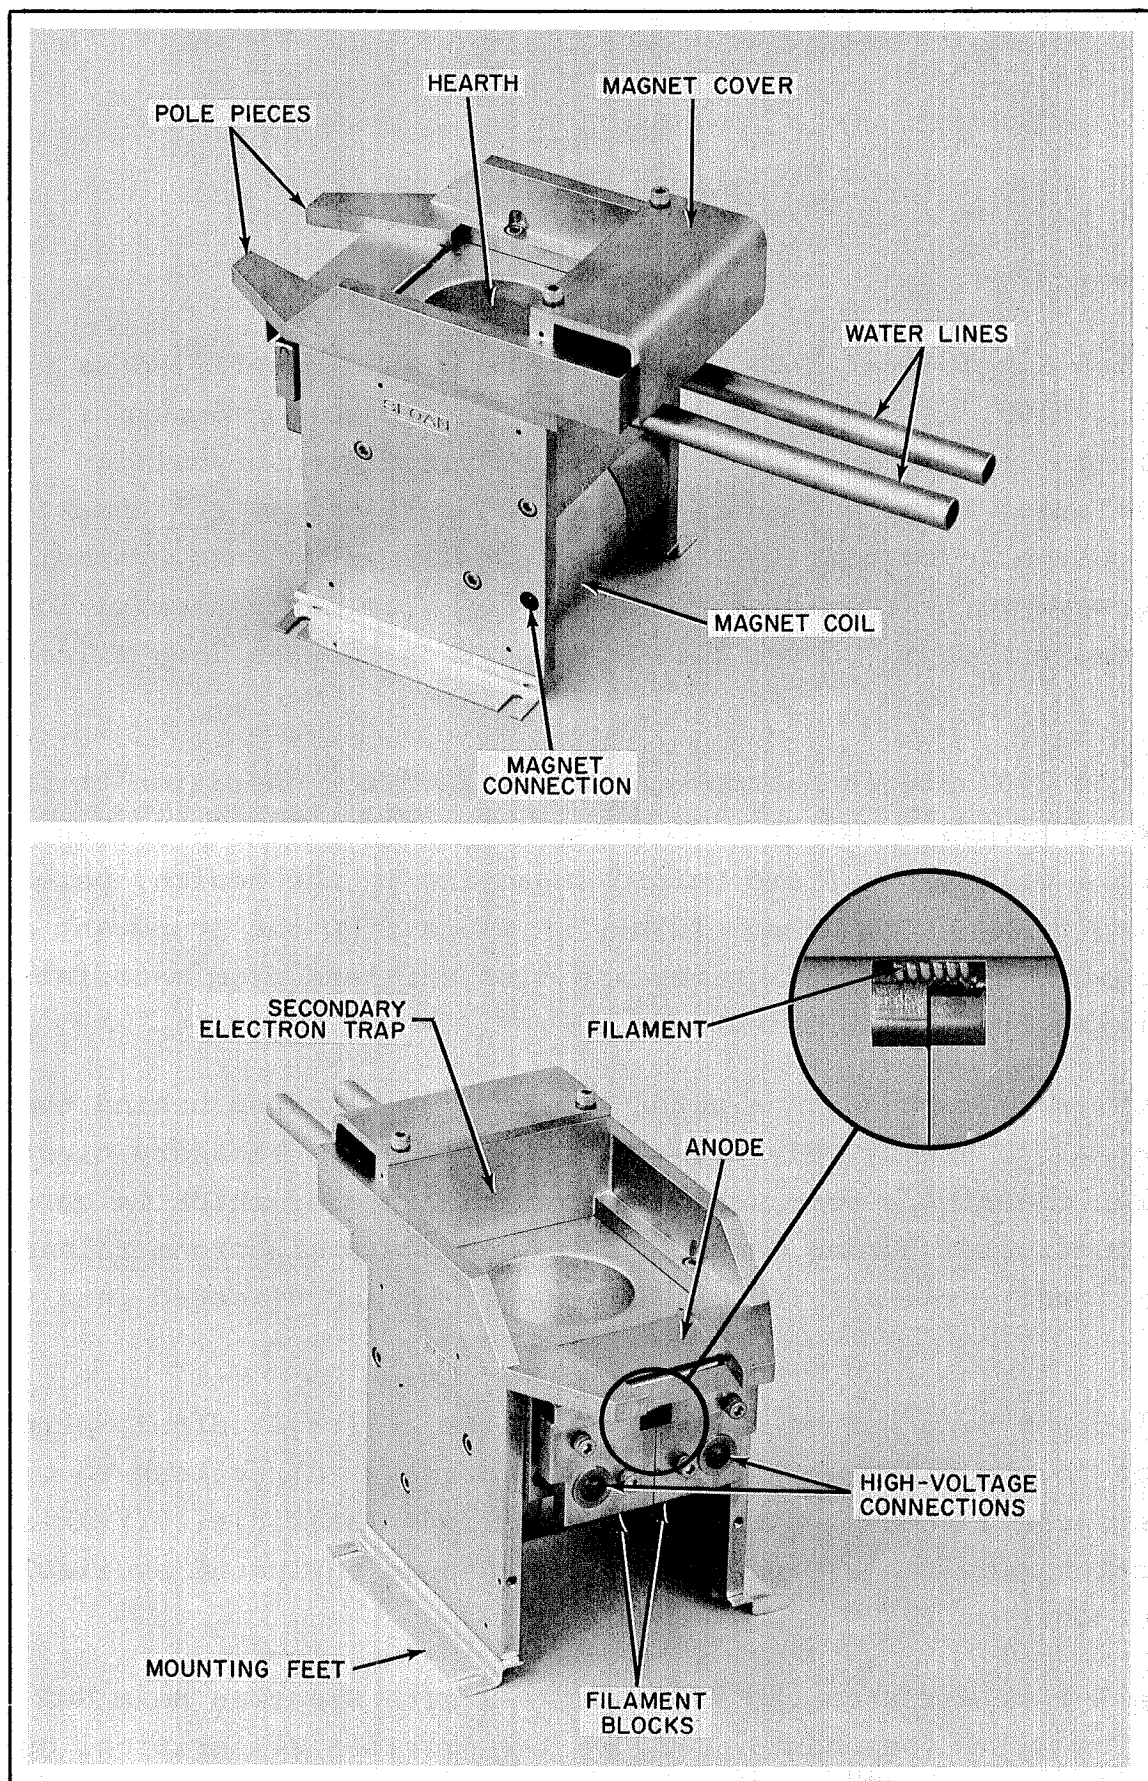
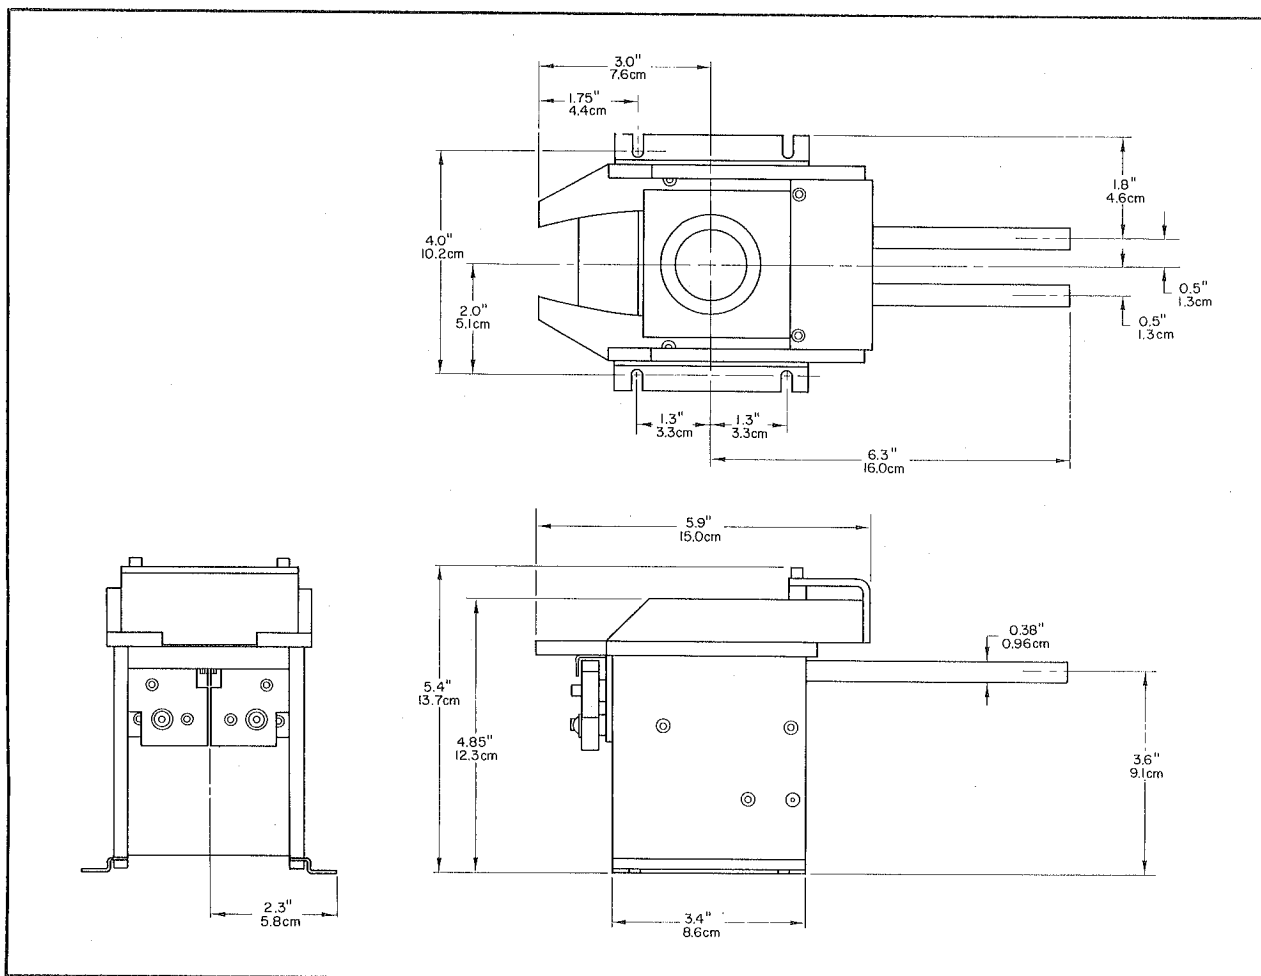

Figure 1-1. Sloan Single-Hearth Electron Beam Gun, 270° Bent Beam
Figure 1-2. Dimensional Drawing of Single Hearth Electron Beam Gun, 270° Bent Beam.
Figure 1-1 illustrates the 270° Single Hearth Electron Beam Gun and shows its major components. Figure 1-2 provides all critical gun dimensions, as an aid to installation.
- (2) Complete all necessary machining operations on the baseplate or feedthrough collar. Size 6-32 or 8-32 stainless steel machine screws and washers are adequate for mounting the gun. Figure 1-2 provides all necessary dimensions for locating the tapped mounting holes precisely with respect to the center of the hearth.
- (3) Cut the copper inlet and outlet water lines to the length desired. If the lines are to be bent, the bends should start no closer than 1/2 inch (1.3 cm) from the gun and undue strain should not be placed on the tube-to-gun joint.
- (7) Connect the electromagnet lead from the service feedthrough to the connector on the side of the gun. (See Figure 1-1 for location.) Maximum electromagnet current requirement is 3.0 amperes. Route the lead in such a manner that it will not be shorted to ground by the tooling or shielding, or insulate it with Teflon sleeving or ceramic beads. Two 3-foot sections of Teflon-insulated wire with pin connectors at both ends are supplied with all Sloan Electron Beam Service Feedthroughs as a convenience to the user.